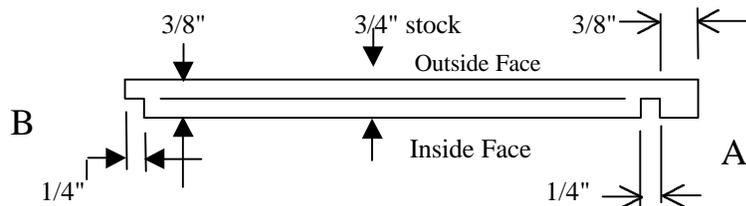

Figure 1
2. Mill a groove 1/4" wide and 3/8" deep down the inside face leaving a 3/8" reveal to the edge of the board ("A" in Figure 1). After cutting, measure. Groove must be exact dimensions to accept pre-cut glass and rubber beading. The depth of cut can be + 1/32", - 0", but the width must be exact.
3. On the opposite edge of the inside face, cut a rabbet that is 1/4" in from the edge and 3/8" deep in the face ("B" in Figure 1). After cutting, measure. Rabbet cannot be under the dimensions stated.